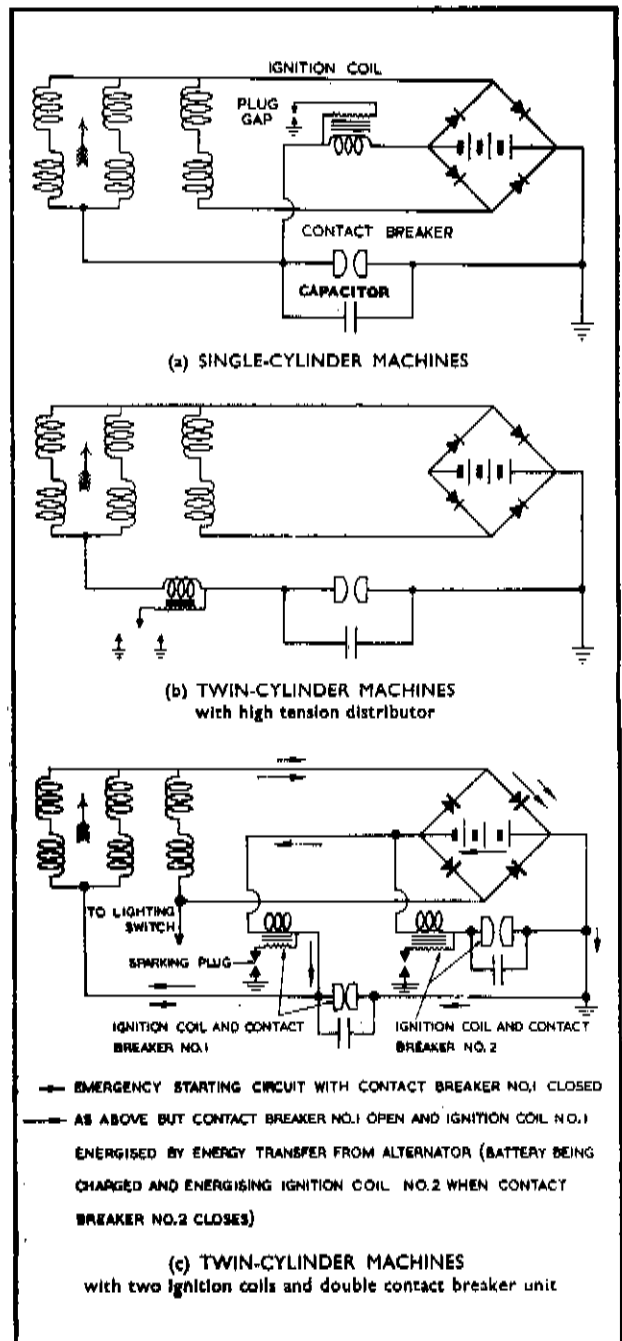

Fig. 7
- (iii) The three circuits used for emergency starting are shown in Fig. 7 (a), (b) and (c). The first is applied to single-cylinder machines, and the second and third to twins. With each, the contact breaker is arranged to open at an instant when the alternating current in the stator windings reaches a
- (iv) When current flows through the windings in the direction indicated in Fig. 7 (a) and the contacts are closed, the main return circuit to the alternator is through one arm of the rectifier bridge. At the instant of contact separation, the built-up electro-magnetic energy of the alternator windings discharges through the alternative circuit consisting of the battery and the ignition coil primary winding. This rapid transfer of energy from the alternator to ignition coil primary winding causes a high tension voltage to be induced in the secondary winding and a spark to occur at the plug.
- (v) From Fig. 7 (b) it will be seen that when twin-cylinder machines are fitted with a distributor the ignition coil primary winding and the contact breaker are connected in series and not in parallel as for single-cylinder machines. The adoption of this more conventional practice permits a slightly more simple cable harness and switching system to be utilised. It is, however, unsuitable for use with single-cylinder machines due to the 'idle' sparking which occurs before the contacts separate. Twins, when fitted with distributor electrodes are unaffected by this premature sparking. With the circuit shown in Fig. 7 (a), 'idle' sparking occurs after the contacts separate, i.e. when the engine has fired. Thus single-cylinder engines are not affected by such sparking.
- (vi) It has recently become the practice to fit a pair of standard ignition coils and a double contact breaker unit in place of a distributor, as shown in Fig. 7 (c).
On referring to Fig. 7 (c), it will be noticed that during emergency starting, when one coil is operating under battery ignition and the other under energy transfer from the alternator, the primary currents are of opposite polarity—terminal 'CB' being positive on the former but negative on the latter. Also, it will be appreciated that energy pulses from the alternator are not passed through the primary winding of the coil